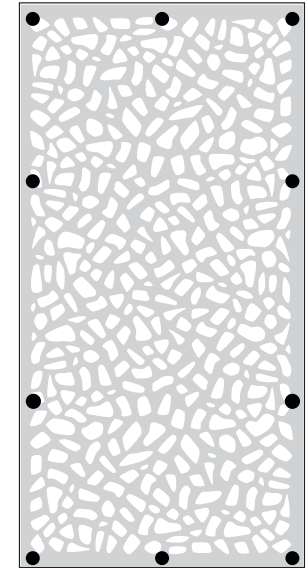

Fig 2
2. At each point where the screen is to be attached **you must drill a 12mm hole** through the screen. We recommend securing the screen with 10 screws positioned as per Fig. 2.